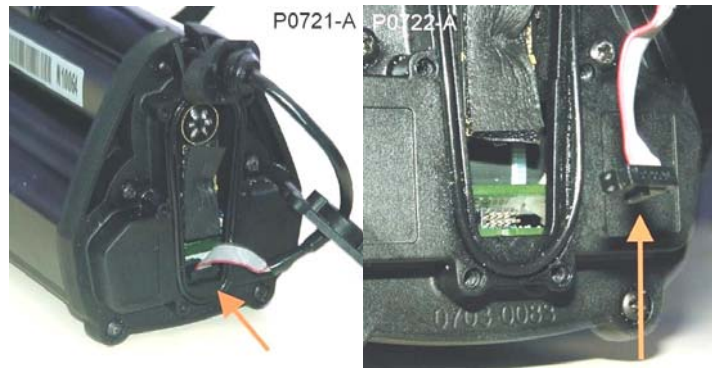

Figure 11: Removal of Wiring Loom from Electronics Pack
- Gently unplug the wiring loom plug from the electronics pack printed circuit board. (Figure 11)